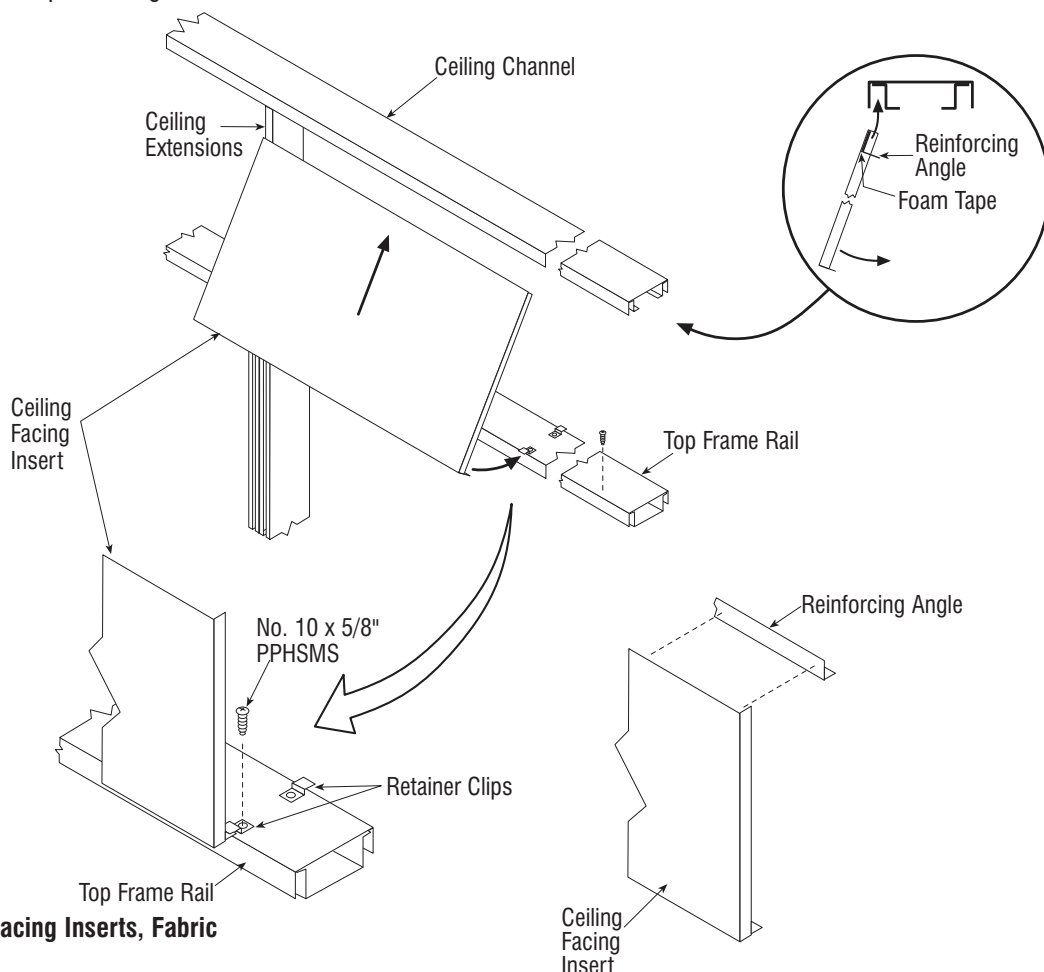

Figure 3-21 Ceiling Facing Inserts, Fabric
4. Insert the top of the panel into the opening of the ceiling channel and slide the lower panel flange in under the retainer clips. See Figure 3-21.
3. Insert the top of the panel into the opening of the ceiling channel and slide the lower panel flange in under the retainer clips. See Figure 3-21.